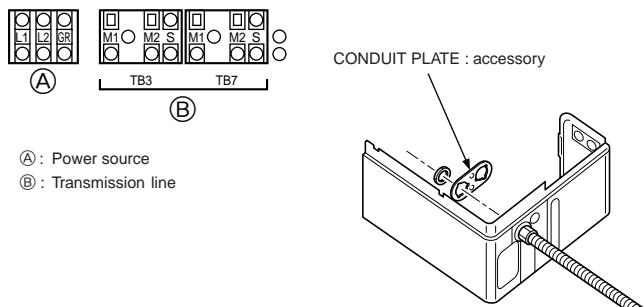

Fig. 6-1
6.2. Control box and connecting position of wiring (Fig. 6-1)
- When using shielded wiring, connect shield ground of the indoor unit transmission line to the earth screw (①) and connect shield ground of the line between outdoor units and the central control system transmission line to the shield (S) terminal of the centralized control terminal block (TB7) shield (S) terminal. In addition, in the case of outdoor units whose power supply connector CN41 has been replaced by CN40, the shield terminal (S) of terminal block (TB7) of the centralized control system should also be connected to the ground (②).